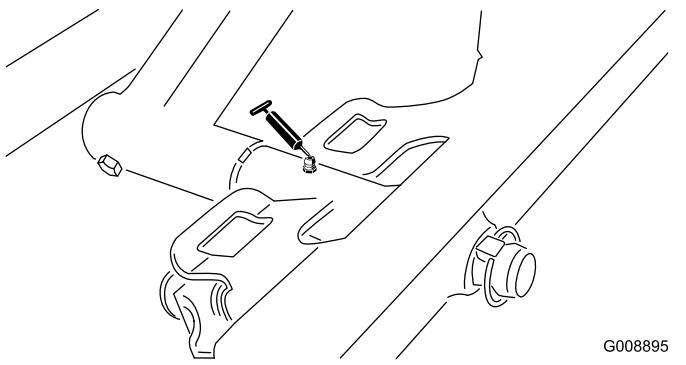

Figure 32
- Front cutting unit pivot (Figure 32)